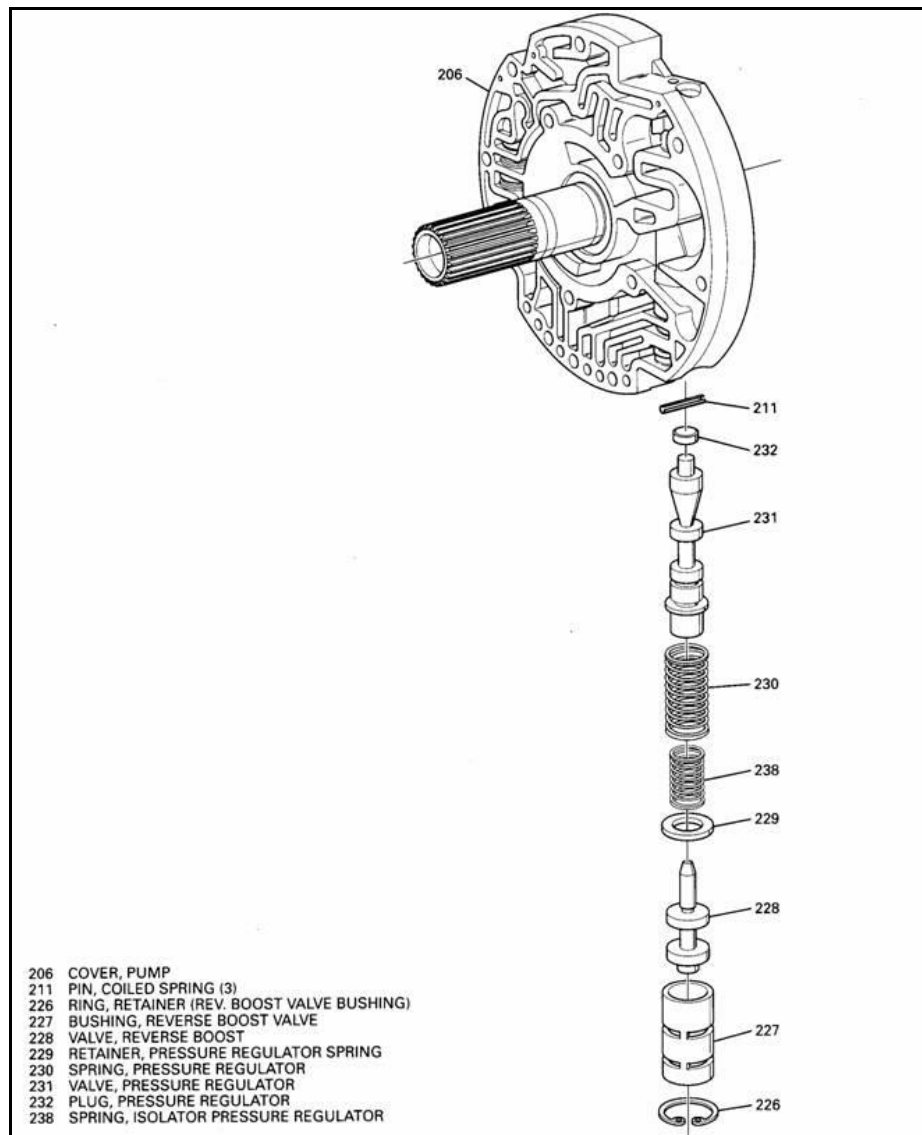

FIGURE 1
Remove the OEM Pressure Regulator Spring (230) and OEM Isolator Pressure Regulator Spring (238) from the oil pump. Two pressure regulator springs are supplied in this kit. The Violet spring will furnish approximately 185-190 psi maximum line pressure, and its use is recommended for applications up to 650 lbs. ft. The Orange spring will furnish approximately 225-230 psi maximum line pressure, and its use is recommended for applications over 650 lbs. ft. Select the appropriate pressure regulator spring based on the intended application and install it into the oil pump along with the supplied Purple Isolator Pressure Regulator Spring. See Figure 1. 1991 thru 1995 models do not use this spring.